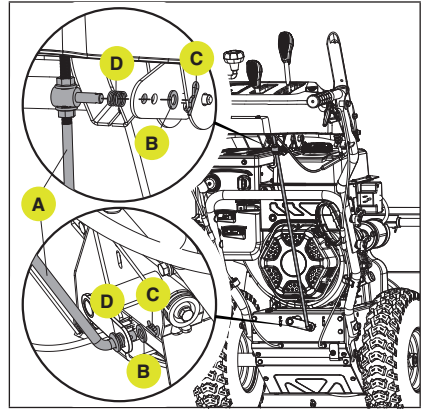

Figure 5
2. Connect the other end of the connecting lever (A) and speed adjusting handle with clip on the base. Remove the washer and clip, insert as shown into the connecting base, then install the washer (B) and clip (C). Make sure the spring (D) is loaded on the correct side. (Fig. 5)